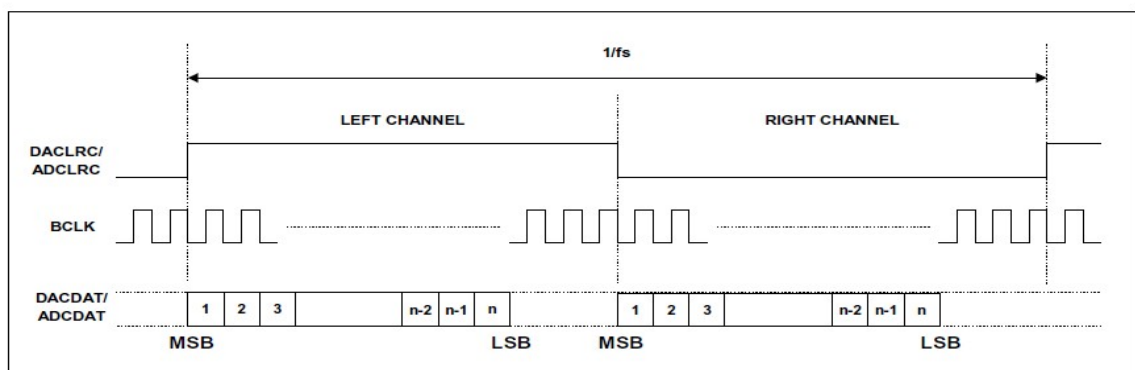

Figure 26 Left Justified Mode
- Notice that we now have a better view of the **ADCLRCK** and **DACLCK** signals. To further understand what these signals mean, go to **Page 33** of the Wolfson_audio manual and look at **Figure 26**. It will look similar to **Figure 106**.